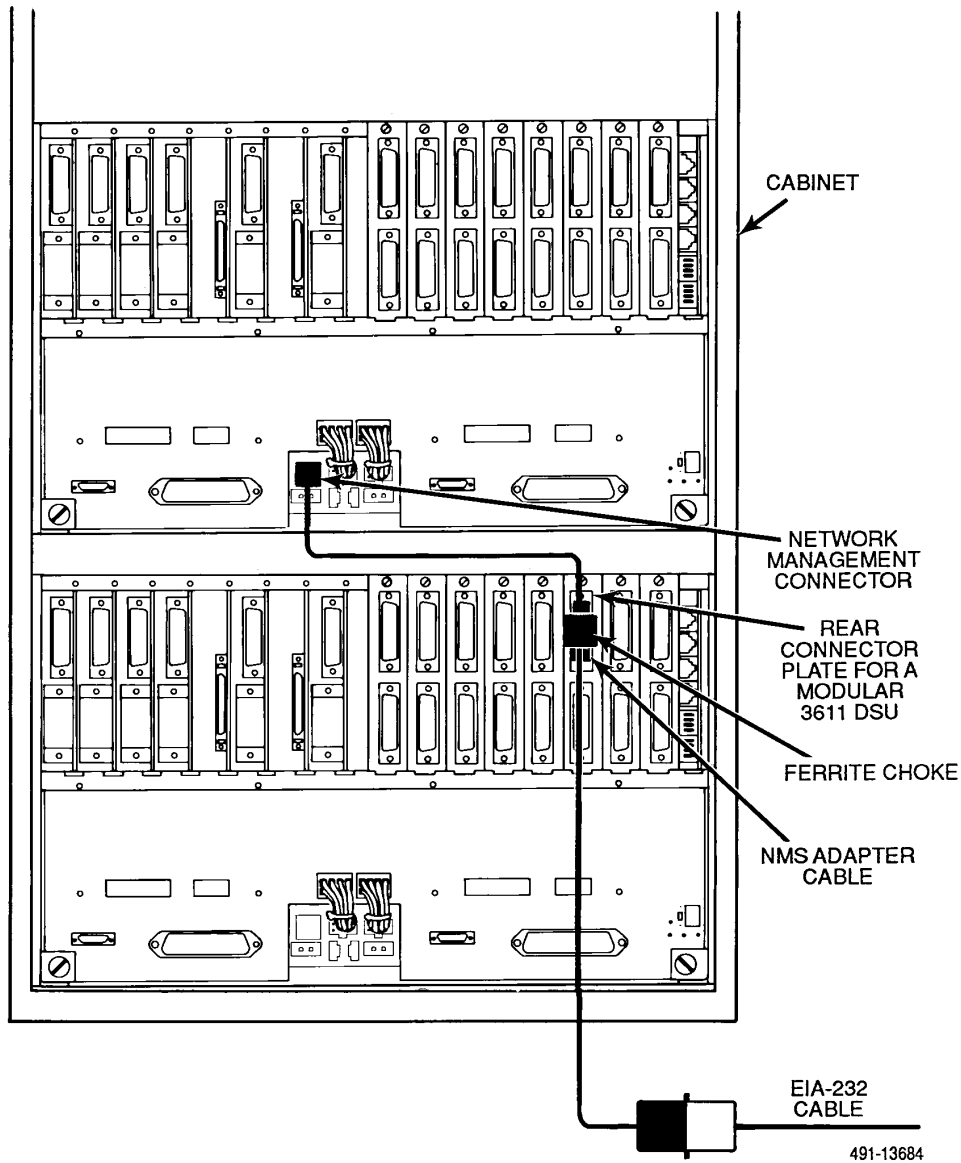

Figure 2-9. Connecting an NMS Adapter Cable to a Modular 3611 DSU When the DTE Interface is EIA-232
1. At the rear of the carrier, plug the 6-wire modular plug end of the NMS adapter cable into the J1 connector (a 6-position modular jack) on the CO Power Unit's backplane (see Figure 2-9).
rear connector plate, remove the ferrite choke and the EIA-232 cable. Plug the DB25 male end of the NMS adapter cable into the top connector of the rear connector plate. Tighten the screws to hold the cable in place. Then, attach the ferrite choke to the NMS adapter cable. Plug the EIA-232 cable into the DB25 female end of the NMS adapter cable. Tighten the screws to hold the cable in place. See Figure 2-9.